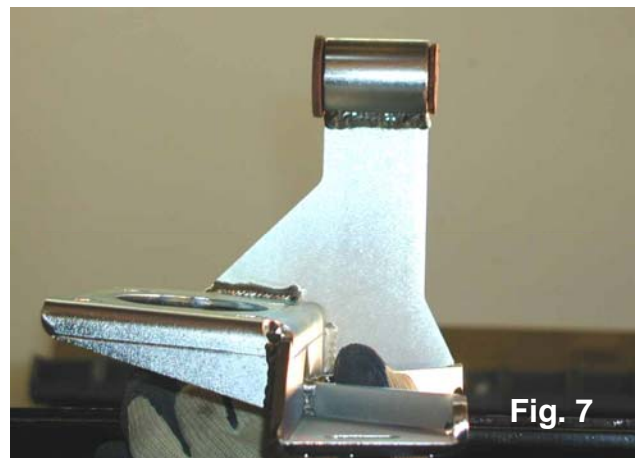

Fig. 7
Step 8: Remove exhaust hanger bushing. You will re-use the exhaust steady rest isolator bushing from the original bracket. To remove it, note that the rear (as it was installed on the Jeep) end of the isolator has a smaller lip on it than the front – push the isolator out from this end towards the front using a ¾" socket (using a larger socket will shear off the small lip). Replace the isolator in the same orientation in the tube on the new bracket – it will be much easier if white-lithium grease is sprayed inside the tube. See **figure 7** for completed conversion orientation.